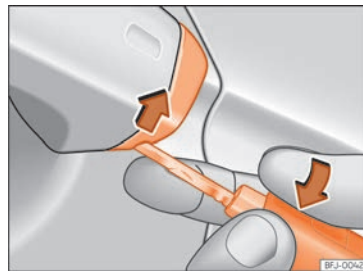

Fig. 95 Driver door handle: lever the cover off
- Insert the key shaft into the lower opening in the cover on the driver door handle **>>> Fig. 95** then remove the cover upwards.